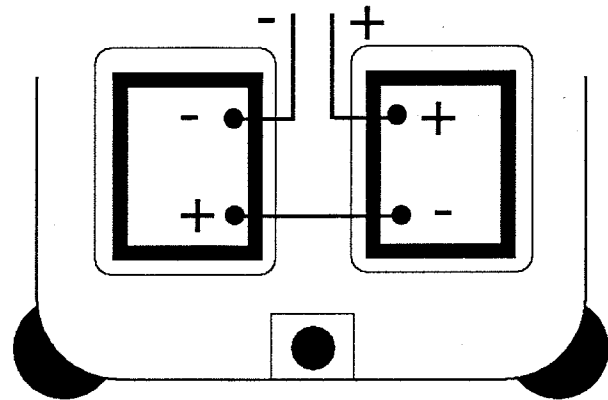

Figure 4
3. Carefully place the batteries into their compartments according to **Figure 4**. **NOTE:** It will be necessary to tip the batteries to get them into the compartments. The batteries are sealed and will not spill acid.
Make sure that the battery post positions match those in **Figure 4**.